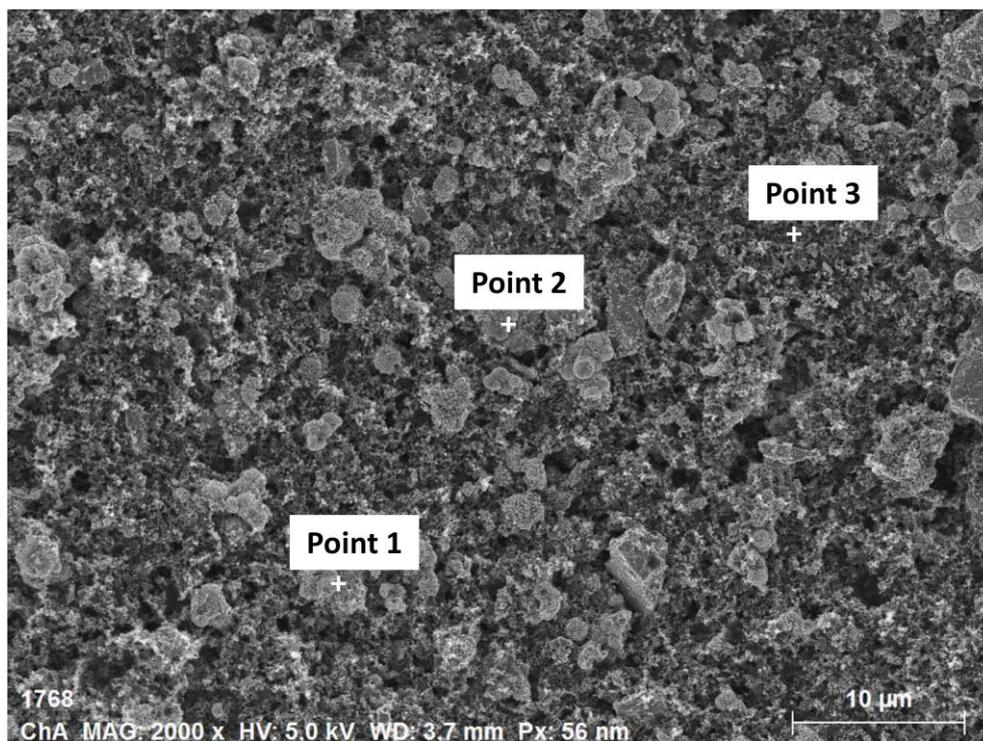
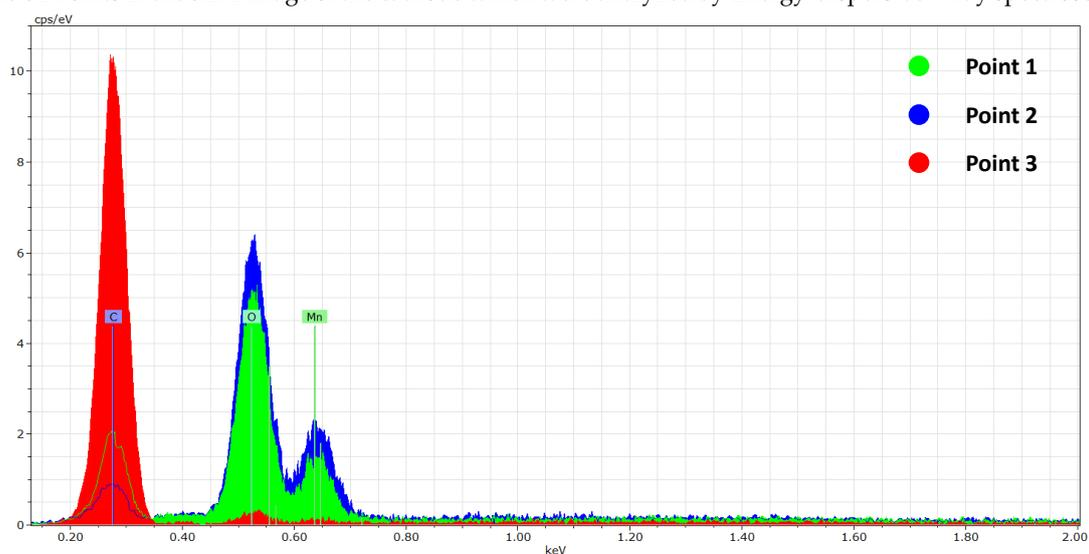

Figure S1 Points in the SEM image of the cathode which were analyzed by Energy-dispersive X-ray spectroscopy
Figure S2 Energy-dispersive X-ray spectroscopy analysis
By Energy-dispersive X-ray spectroscopy (EDX) three different points in a SEM image were analyzed (s. Figure S1) in order to find out if the bigger particles in the electrode are manganese sesquioxide particles. In the EDX diagram it can be seen that point 1 and point 2 are manganese sesquioxide particles (manganese (Mn) and oxide (O)) whereas point 3 is carbon black (carbon (C)) (s. Figure S2).